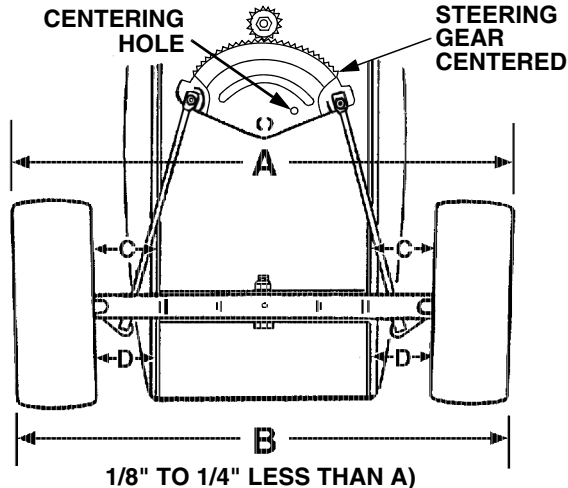

Figure 13
The front wheels should toe-in approximately 1/8 to 1/4 inch, as measured across dimensions A and B shown in Figure 13.
1. Check the steering gear to ensure it is in the centered position. The hole in the steering segment gear will align with the hole in the steering housing (See Figure 13). **NOTE:** A 5/16" pin can be used in the alignment holes to assure the steering segment is centered.
3. Measure the distance between the bottom edges of the tractor frame channels and the marks on the front of each wheel (See measurement D in Figure 13). These two measurements should be equal.
- Measure the distance between the frame and the marks on the rear of each front wheel (See measurement C in Figure 13). Measurement D should be approximately 1/16 to 1/8 inch less than measurement C on each side of the tractor.